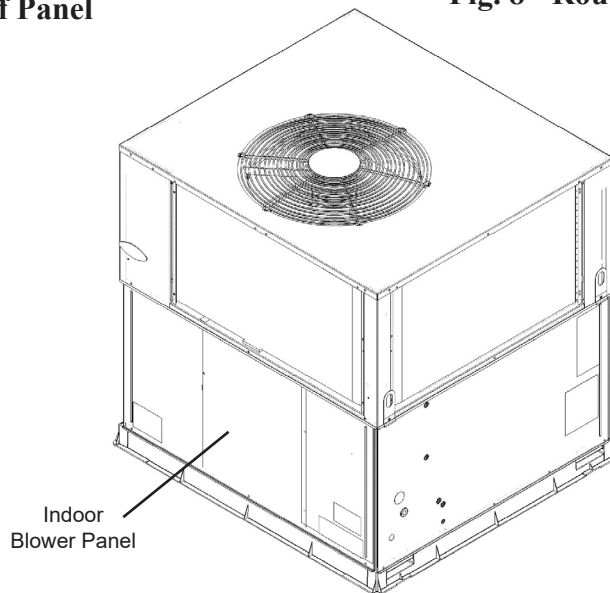

Fig. 9 - Indoor Blower Panel
6. Remove the panel on the HVAC unit covering the indoor blower. See Fig. 9. The (provided) Supply Air Temperature (SAT) sensor, which looks like an eyelet terminal, must be installed in the blower section. Attach the (2) pink wires from the economizer harness (or extension harness) to the SAT.